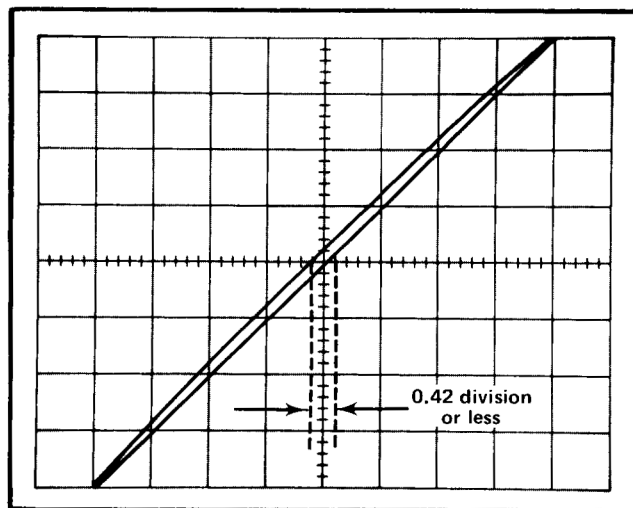

Fig. 5-1. Typical CRT display when checking X-Y phasing.
- e. CHECK—CRT display for an opening at the center horizontal line of 0.42 division or less (3° or less phase shift; see Fig. 5-1).